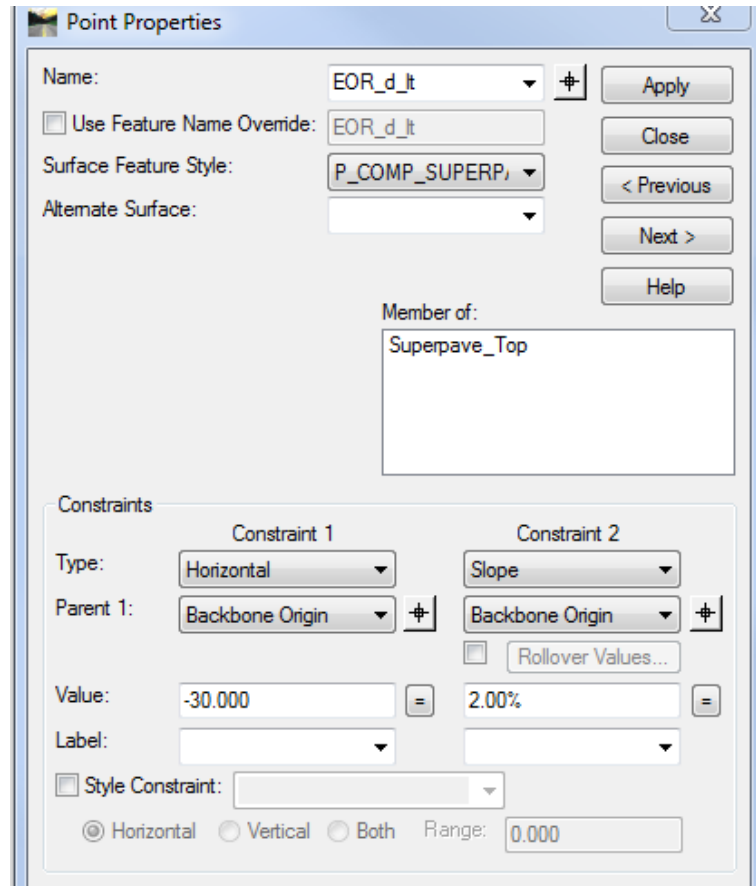

Figure 6-22 InRoads Point Properties Dialog Box
- K. Next change the **cross slope** from **1% to 2%**. Click the **Apply** button and then click **Close**. Figure 6-22 shows the Point Properties dialog box with the new values for Constraint 1 and Constraint 2.